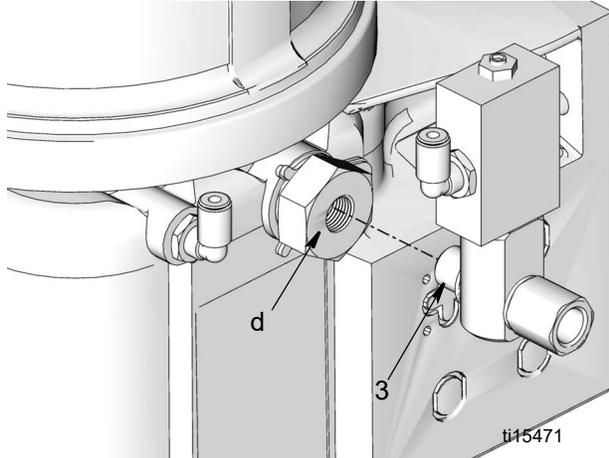

**FIG. 4**
7. Apply thread sealant (user supplied) to threads (b) of pressure relief valve (6) (FIG. 4).
8. Install pressure relief valve (6) into banjo fitting (2). Wrench tighten (FIG. 4).
9. Install one washer (1) over end banjo bolt (3). Then install banjo fitting (2) onto banjo bolt (3). Install second washer (1) over end of banjo bolt. (FIG. 4).
10. Apply thread sealant (user supplied) to threads (b) of second 90° tube elbow fitting (5). Install fitting in pressure relief valve. Wrench tighten.